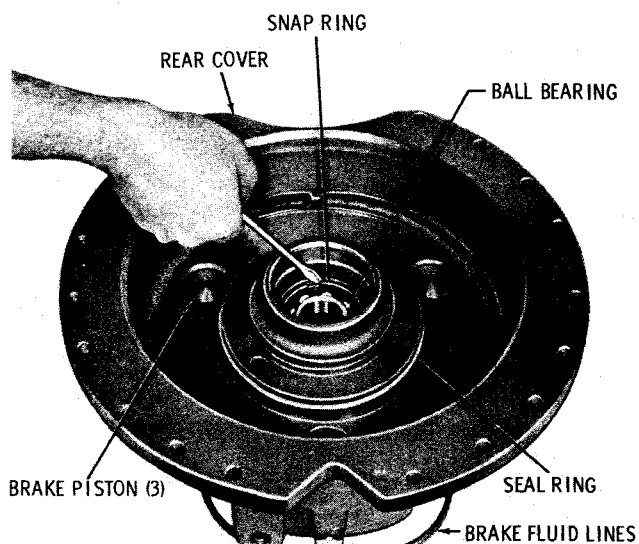

Fig. 6-21. Removing snapring from TTB model rear bearing bore
(5) If replacement of spring pins 22 is necessary, press adjusting ring 21 from brake apply plate 23. Remove six spring pins 22 from adjusting ring 21.
(6) Remove the snapping that retains the ball bearing and remove the bearing from the rear cover (fig. 6-21). Remove the Teflon sealing from the inner hub only if replacement is necessary. Note the three brake pistons.